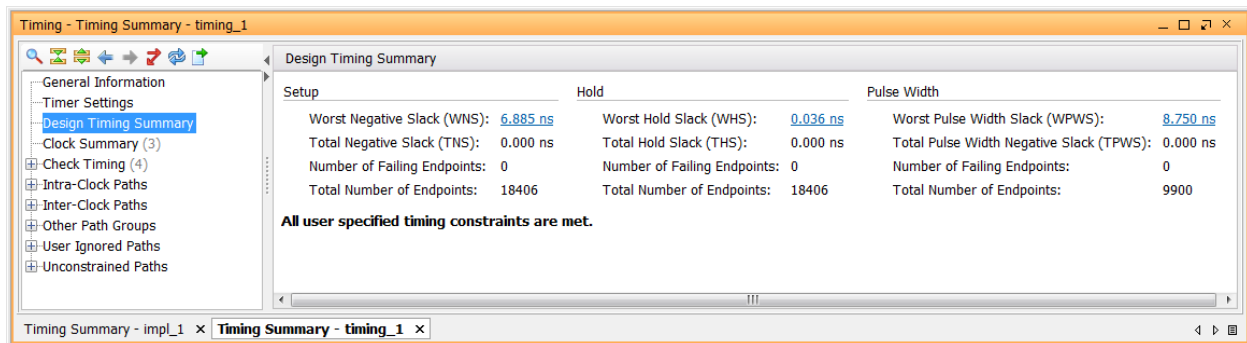

Figure 57: Timing Summary
4. Ensure that all timing constraints are met by looking at the Timing Summary tab, as shown in Figure 57. Note that timing could be slightly different in your case.